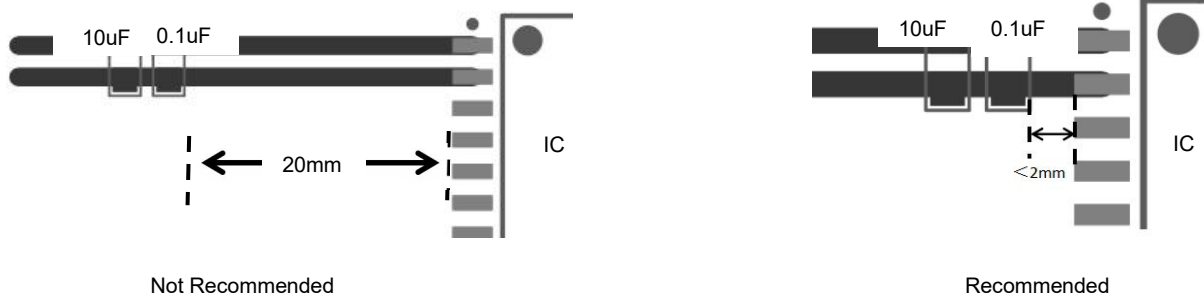

Figure 8-1
1. The decoupling capacitors (0.1uF) and energy storage capacitor (10uF) of VCC and GND1, V_{ISO} and GND2 should be placed as close the chip pins as possible to reduce loop area and parasitic inductance of PCB traces. General control should be 2mm. The decoupling capacitor is placed close the chip, and the energy storage capacitor is placed outside. As shown in Figure 8-1.